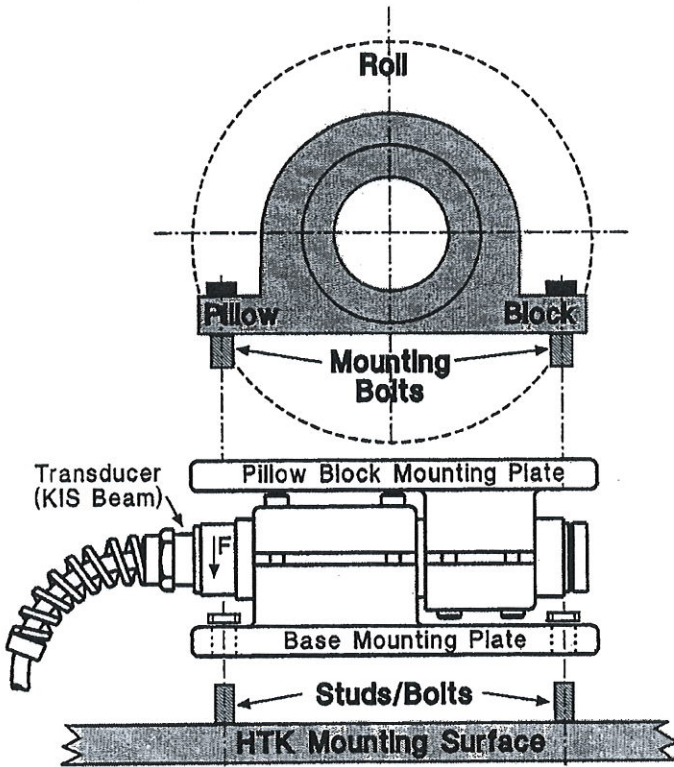

Figure 2-3. HTK Installation Diagram
(4) Mechanical Installation (Figure 2-3): Raise the pillow block/roll assembly and install the tension module in place on the HTK mounting surface (foundation). Before bolting down, be sure that the HTK mounting surface is uniformly supported and level. Lower the pillow block/roll assembly onto the module adapter plate and bolt in place. Avoid dropping the pillow block/roll assembly onto the module. Tighten all mounting bolts to the bolt manufacturer's recommended torque specification. Repeat for the opposite side of the roll. Following installation, do not perform arc welding on the equipment or any support structure electrically in contact with the tension modules.